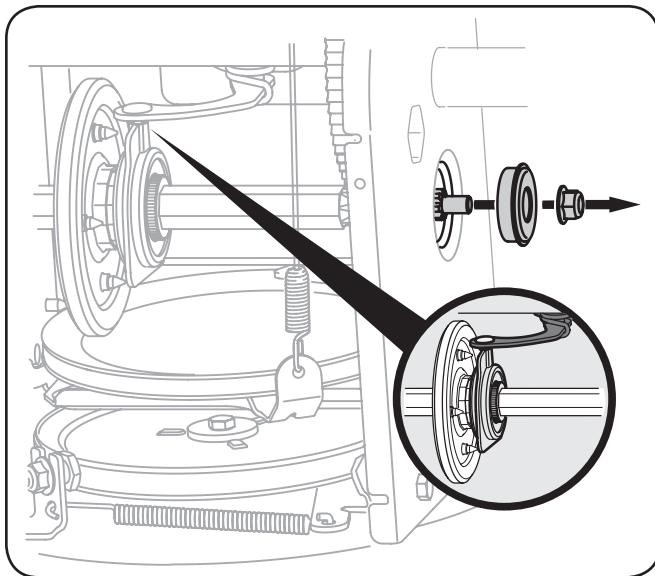

Figure 7-7
5. Carefully remove the hex nut which secures the hex shaft to the snow thrower frame and lightly tap the shaft's end to dislodge the ball bearing from the right side of the frame. See Figure 7-7.
NOTE: Make sure the shift lever pin is in place in the bearing housing. See Figure 7-7 inset.